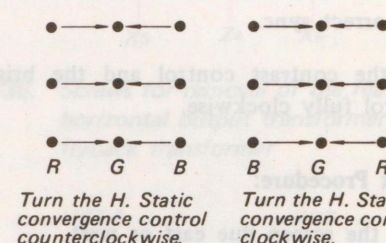

Fig. 3-4. Horizontal static convergence adjustments
- Adjust the horizontal static convergence control to converge the red dots and the blue dots with the green dots at the center of the screen. See Fig. 3-4.